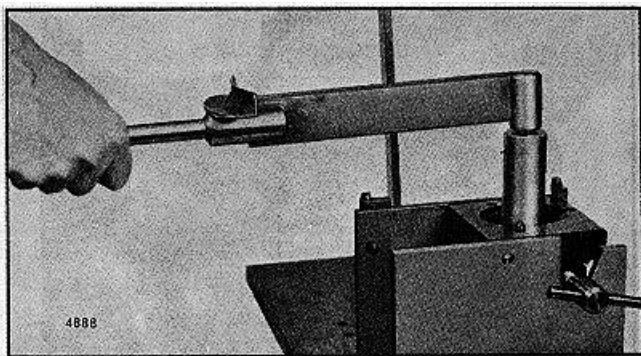

FIG. 41 - Tightening Injector Nut With Torque Wrench using Tool J 4983-01
9. Use socket J 4983-01 and a torque wrench to tighten the injector nut to 75-85 lb-ft (102-115 Nm) torque (Fig. 41).